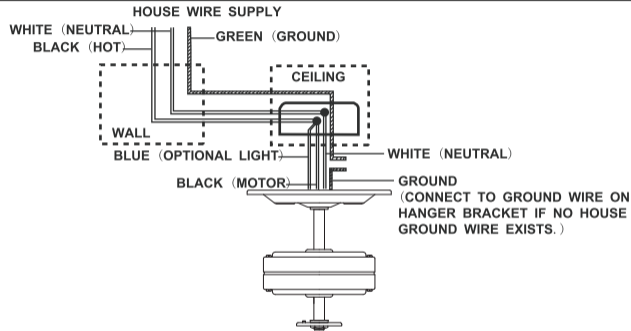

Fig. 2
**Step 1.** Connect the black (hot) wire from the ceiling to the black and the blue wires from the fan. Connect the white (Neutral) wire from the ceiling to the white wire from the fan. (Fig 2)
**Step 2.** If your outlet has a ground wire (Green or Bare Copper) connect the fan ground wires ((from hanger ball and hanger bracket) to it; otherwise connect the fan ground wire wires from the hanger ball and hanger bracket together. (Fig. 2)